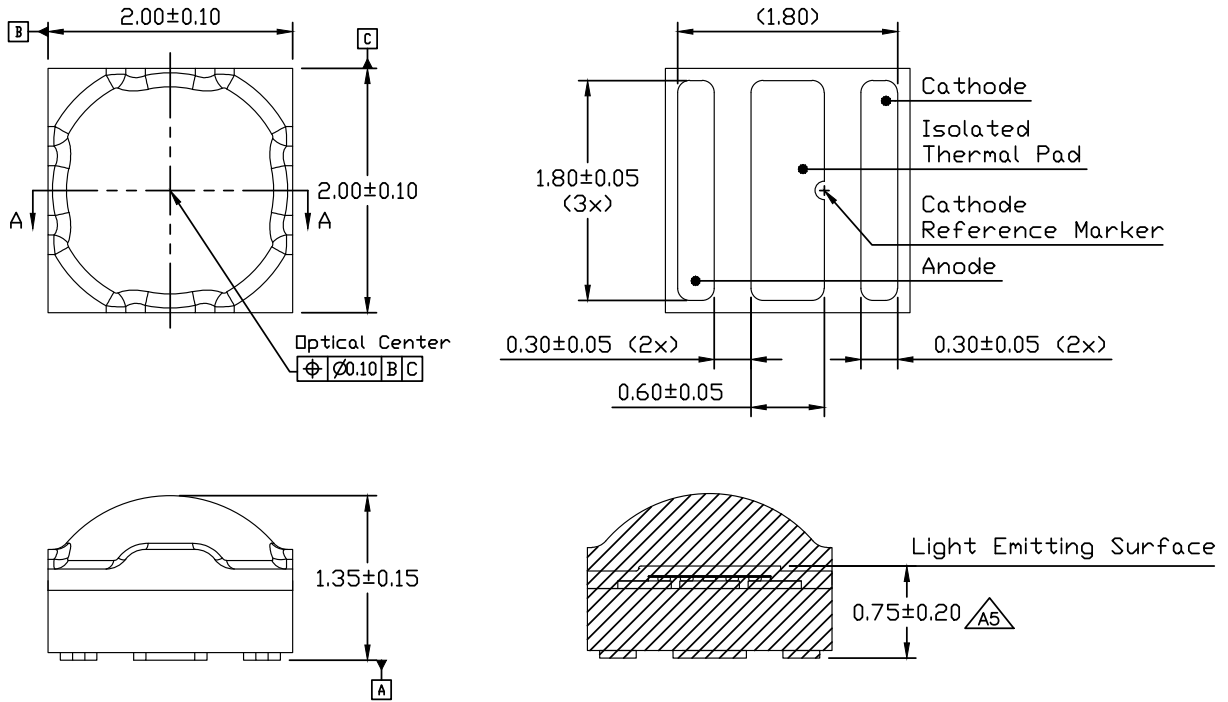

Figure 7a. Mechanical dimensions for LUXEON SunPlus 20 Line.
- Notes for Figures 7a and 7b: